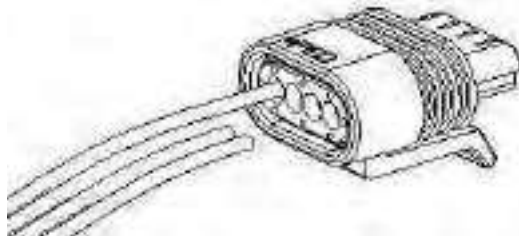

Figure 54
(2) Connector Installation
- b. Hold connector so the cable seal is facing you. See Figure 54.
- c. Take each blunt cut wire and start through cable seal as shown in Figure 54.